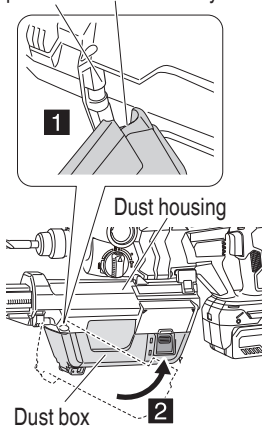

Fig. 23
- (4) Make sure the filter is positioned correctly.
- (5) Attach the dust box to the dust housing. (Fig. 23)